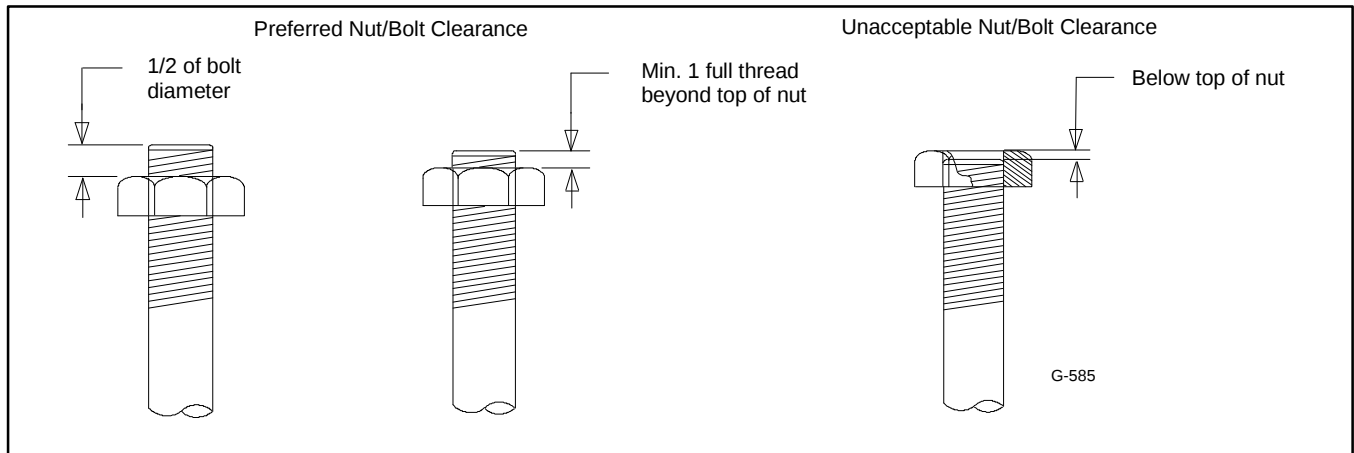

Figure 18 Acceptable Bolt Lengths
**Bolt/Screw Length:** When bolt/screw length is not given, use Figure 18 as a guide. As a general rule, a minimum length of one thread beyond the nut and a maximum length of  $\frac{1}{2}$  the bolt/screw diameter beyond the nut is the preferred method.